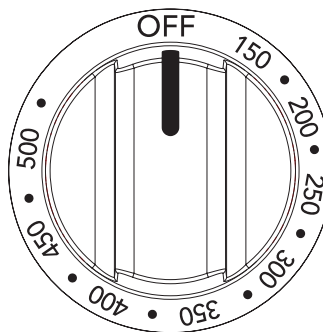

Figure 14: Oven temp knob
4. Turn the oven temp knob to the desired temperature position (Figure 14).
2. Turn the oven temp knob to the desired temperature position (Figure 14). For optimum results, preheat broil for 2-to-5 minutes before adding food.